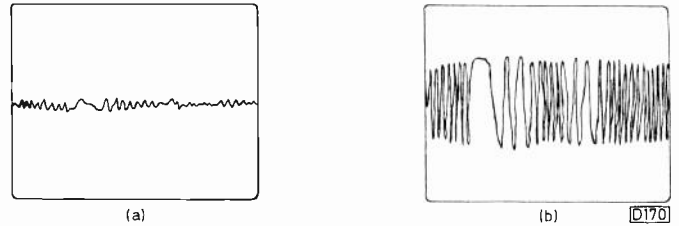

Fig. 4: Diffraction grating adjustment. (a) TE signal at null, (b) TE signal at peak.
The method of grating adjustment laid out in the manual is to scope the tracking error (TE) signal and turn the screw (a special eccentric screwdriver is required) that rotates the grating until the signal reaches a peak — see Fig. 4. The problem arises when you've managed this quite successfully but the player still doesn't operate. Quite naturally you go on to attempt other adjustments to clear the fault. What the manual doesn't tell you is that there is more than one peak – in fact there are on average ten peaks, and only one of them is the correct one! The key to success is to turn the grating screw to one extreme and then rotate it slowly to the other extreme, counting the peaks as you go. The correct peak is the centre one. So if for example you count eleven peaks, turn the grating screw back until you are at the sixth peak. In the case of ten peaks being counted take a guess at five or six – it will be one of the two. Credit for this time-saving method must go to Ken Clements, Pioneer UK's technical training officer, who spent some time working on the problem before he came up with this simple solution. I've not had the opportunity to see if it will work with other makes of player, but I would certainly attempt it if I found myself in difficulties with the grating adjustment.